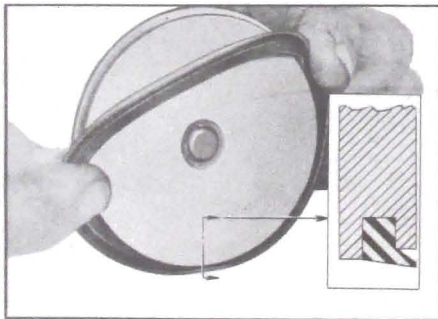

Figure 5-62—Installation of Servo Piston Seal
4. Worn or damaged piston seals should be replaced. When a new seal is installed on a piston make sure that the lip fits over the smaller diameter land. See figure 5-62.
7. Insert feeler gauge between crescent and driven gear to check clearance, which should be .005" to .009" on front pump and .0045" to .007" on rear pump. See figure 5-62, view A.